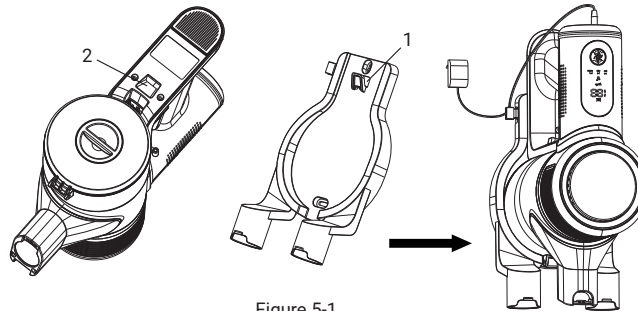

Figure 5-1
5.1 Charging mode: as shown in fig. 5-1, hang the hook No.1 engaged into the square hole No.2 in the low body of the cleaner. And then plug the charger adapter into the main unit. The LED of the battery is on and it will show 100% after fully charged. Charging time is 4-5 hours.